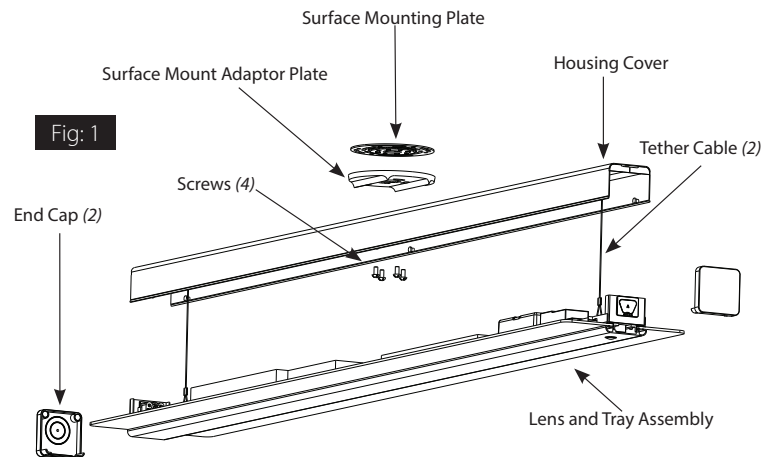
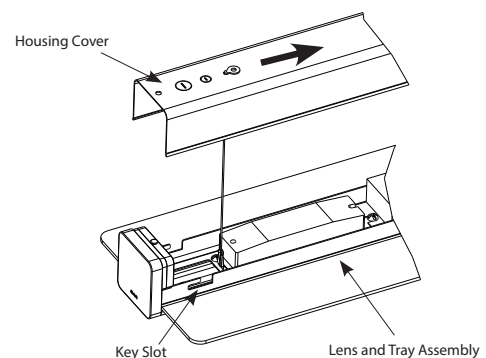

Fig: 1
Fig: 3
2. Remove **End Caps** as shown in Fig. 1. Separate the **Housing Cover** from the **Lens and Tray Assembly** by sliding the **Housing Cover** to the right to unlock from **Key Slots** as shown in Fig. 3. Pre-installed **Tether Cables** (2) will prevent **Lens and Tray Assembly** from separating from **Housing Cover** as shown in Fig. 1.
4. Align **Surface Mount Adaptor Plate** to the **Housing Cover**. Using (4) **Screws** (*provided*) secure to the **Surface Mounting Plate**.
1. Remove **End Caps**. Slide **Lens Tray Assembly** from **Housing Cover** to release **Tray Assembly** from **Housing Cover** by sliding the fixture to the right to unlock from **Key Slots** as shown in Fig. 3. Pre-installed **Tether Cables** (2) will prevent **Lens and Tray Assembly** from separating from **Housing Cover** as shown in Fig. 1.